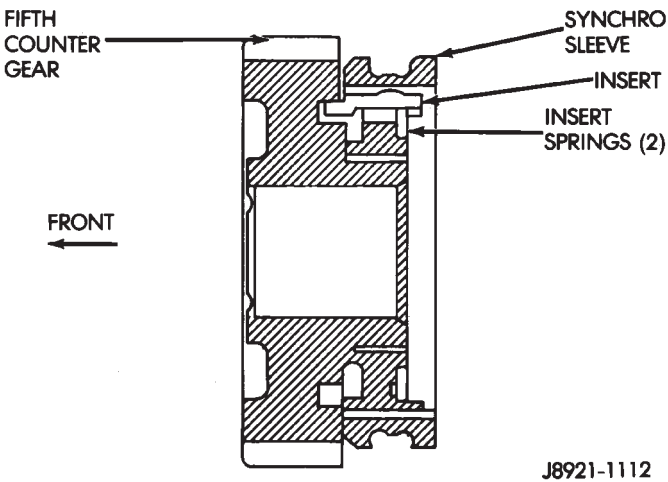

Fig. 99 Assembling Fifth Gear And Synchro Assembly
- (3) Assemble counter fifth gear, synchro sleeve, inserts and insert springs (Fig. 99).